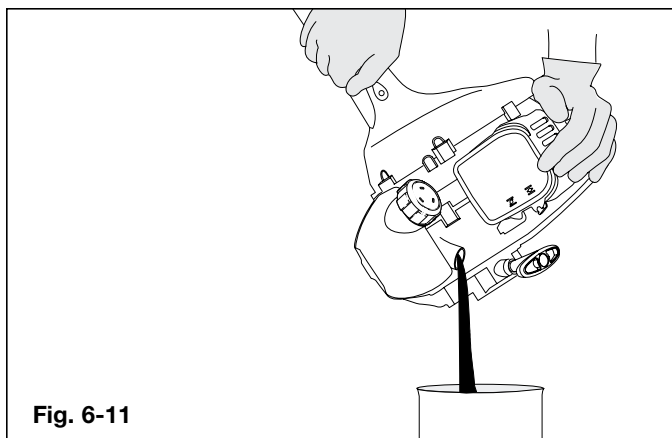

Fig. 6-11
3. Pour the oil out of the oil fill hole and into a container by tipping the unit to a vertical position (Fig. 6-11). Allow ample time for complete drainage.